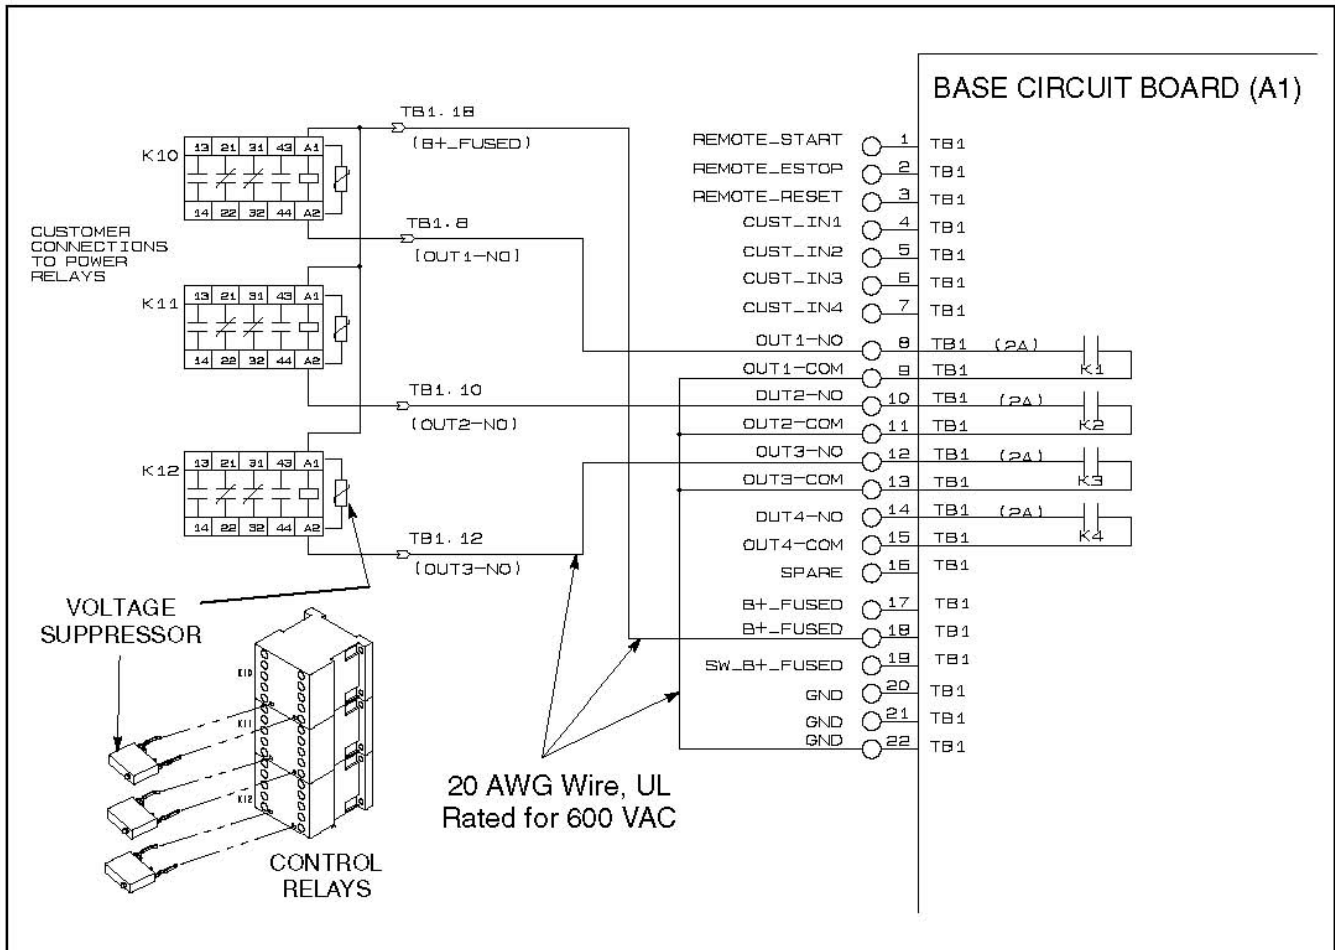

FIGURE 32. OPTIONAL CONTROL RELAYS (K10, K11, K12)
**Damage to the Base board can occur if the voltage suppressors (Figure 32) are not installed across relay coils (A1/A2) before connecting generator set battery cables.**
These relays (**Figure 32**) are used to control auxiliary equipment, such as fans, pumps and motorized air dampers. Energizing of the relays is user definable (refer to *TB1 Customer Outputs* in this section for customizing information.)